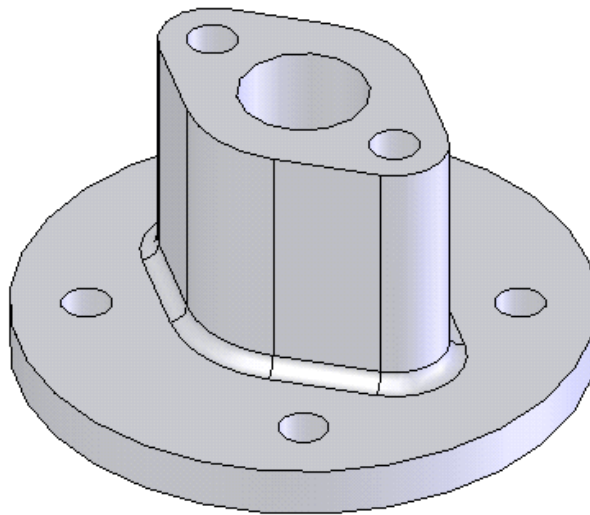

Figure 8-59 Final model
- d. Create the holes using the **Simple Hole** tool and pattern the hole using the **Circular Pattern** tool, refer to Figure 8-59.
- e. Create a drilled hole feature using the **Hole Wizard** tool, refer to Figure 8-59.
- f. Mirror the hole feature along the **Right** plane, refer to Figure 8-59.
- g. Create the fillet feature, refer to Figure 8-59.
The isometric view of the model after creating all the other features is displayed in Figure 8-59.